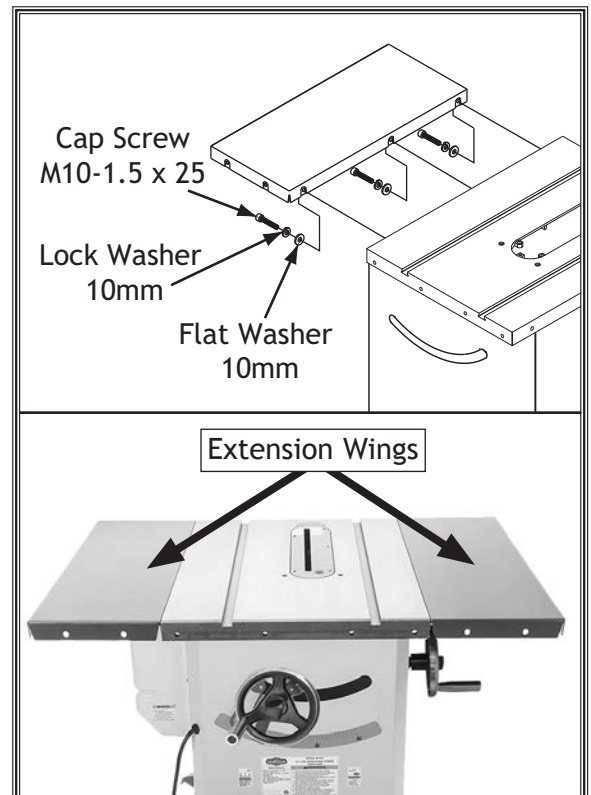

Figure 17. Extension wings installed.
8. With another person to hold wings in place, attach each extension wing to main table using (3) M10-1.5 x 25 cap screws, (3) 10mm lock washers, and (3) 10mm flat washers (see **Figure 17**).